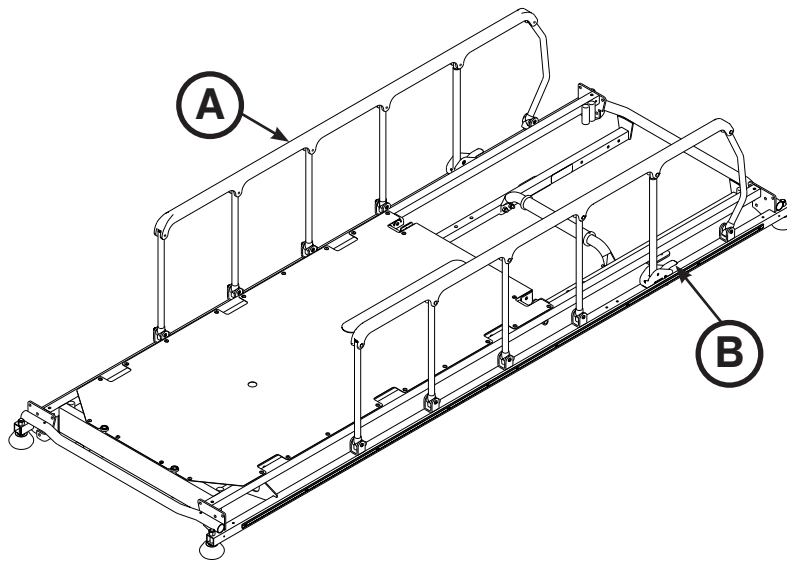

Figure 4: Siderails
To raise the siderails, pull up on the siderail (A) and raise it to the full up position until the latch (B) engages as shown in Figure 4.
To lower the siderails, pull up on the latch (B) and guide the siderail to the full down position as shown in Figure 4. The latches (B) are colored yellow for easy identification.